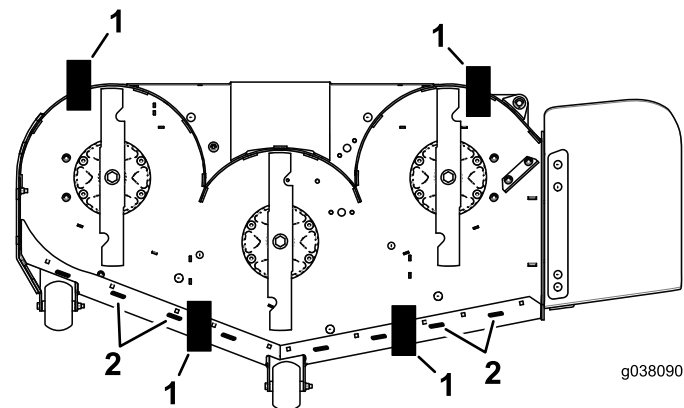

Figure 77
10. Place 2 blocks (see Block Height and Rake Table) under the rear edge of the cutting deck skirt; 1 on each side of the cutting deck (Figure 77).